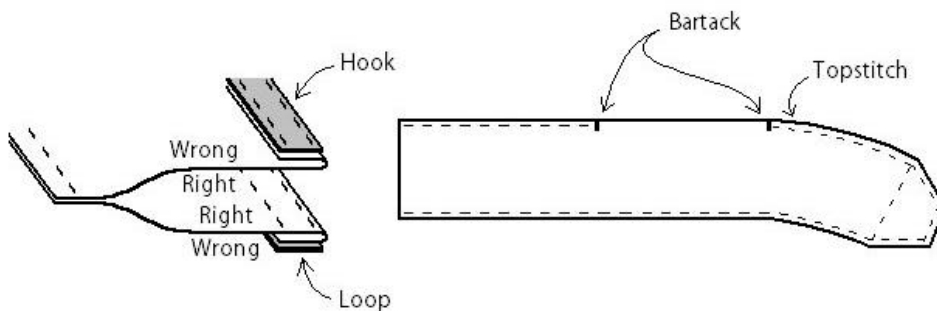

Figure 3. Stitching on shoulder strap.
- 2.3 Sew 3/8" hook and loop fasteners to wrong side of 7" tabs, hook on the lining and loop on the strap. See *Figure 3*.
- 2.6 Topstitch around edge of straps, except where hook and loop are attached. Reinforce the two ends of the hook and loop by bartacking. See *Figure 3*.
- 2.7 Sew a straight line across end of strap, 1 1/2" in from end, per *Figure 3*.